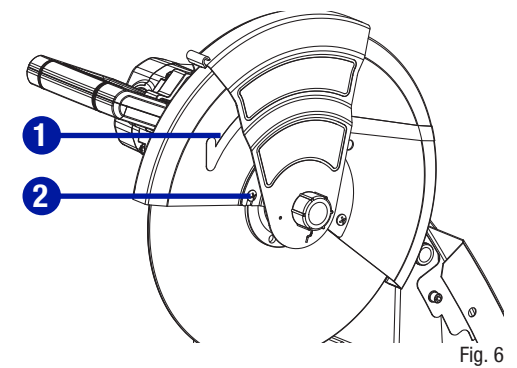
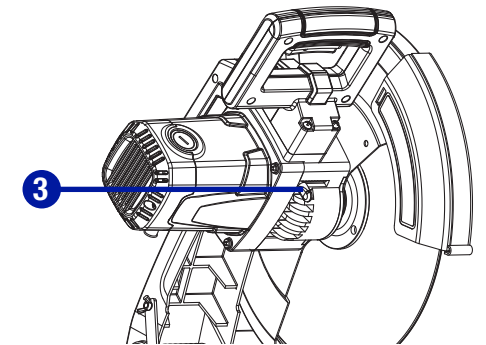

Fig. 6
Fig. 7
- Rotate the lower wheel guard (1) upward until you expose the cross-screw (2). (Fig. 6)
- Loosen the cross-screw (2) but do not remove it. Continue to rotate the lower wheel guard (1) until it will stay in the back position.
- Press and hold the spindle lock button (3) to the right while rotating the abrasive wheel by hand. (Fig. 7)